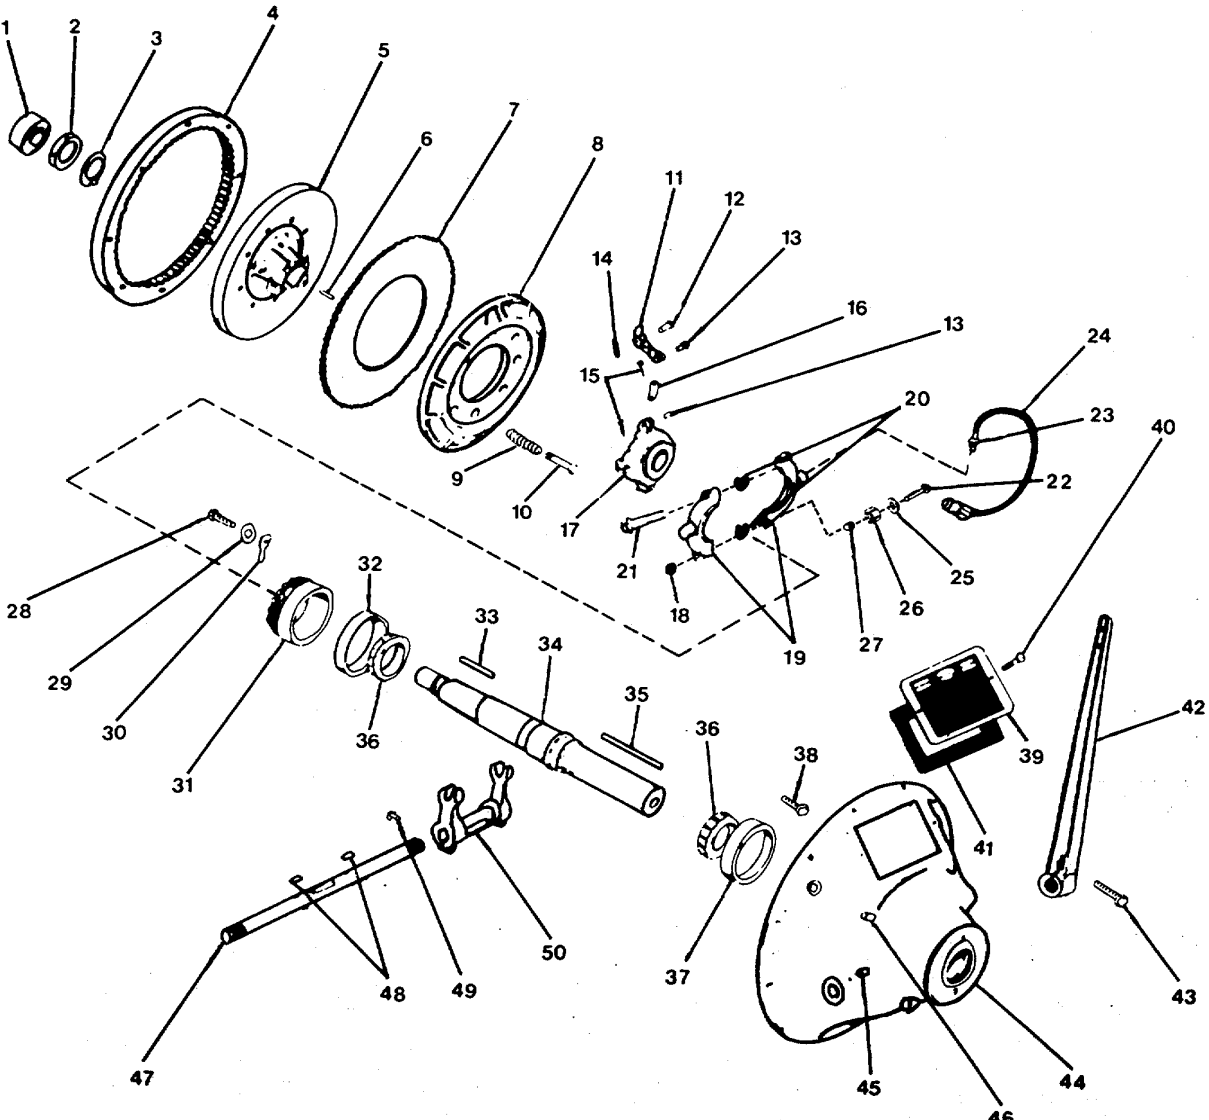

FIGURE 3-55. *Power Takeoff Assembly (SL-111 HP2).*
- a. Support the power take-off housing (44, FIGURE 3-55) on a work bench with wooden blocks. Have the PTO end facing upward.
- b. Remove the pilot bearing (1) from the clutch shaft (34).
- c. Remove the jam nut (26) and lockwasher (25) from the hose fitting (23) located in the PTO housing (44). Push the fitting (23) and hose (24) into the PTO housing (44).
- d. Straighten the bent portion of the hub nut lockwasher (3) from the hub nut (2). Remove the hub nut (2) and the lockwasher (3) from the clutch shaft (34). Discard the hub nut lockwasher (3).
- j. After adjustment, install the retainer lock (30, FIGURE 3-55) and secure the lock (30) to the clutch housing (44) with a capscrew (28) and lockwasher (29). Tighten the capscrew to 21-24 ft-lb torque. Be sure to lubricate the main bearings through the housing fitting near the shaft exit.
- k. Install the lubrication fitting (38) in the rear (output) end of the clutch shaft (if used).
- m. Install four levers (11) and pins (12) in the hub and back plate (8). Secure the levers (11) and pins (12) to the plate (8) with four cotter pins (14). Spread the cotter pins.
- n. Install the driving plate (7) onto the hub and back plate.
- o. Install the floating plate (8) onto the hub and back plate (5) against the driving plate (7).
- p. Use four pins (13) and cotter pins (15) to attach eight links (16) to the finger levers (11). Spread the cotter pins. When the cotter pins are spread, the radius of the pin ends must not be greater than 0.31 inch. This is necessary to prevent operating interference.
- q. Install the eight spring bolts (10) and pressure springs (9) through the floating plate and into the hub and back plate. Tighten the spring bolts until their shoulders contact the hub and back plate; then, tighten them to 160-175 ft-lb torque.
- r. Assemble the collar (19) halves and shims (20) to the sliding sleeve (17) with the two capscrews (22) and two hex-nuts (18). Tighten the hex-nuts to 38-42 ft-lb torque. Install the two guide pins (6) with flats into the sliding sleeve (17) if they were removed during disassembly.
- s. Install the sliding sleeve (17) with attached parts entering the guide pins (6) into the hub of the hub and back plate.
- ab. Place the instruction cover plate gasket (41, FIGURE 3-55) and install the cover plate (39) on the PTO housing with two round-head screws (40). Tighten the screws to 11-13 ft-lb torque.
- ac. If the driving ring (4) was removed, position the driving ring (4) against the engine flywheel and secure it with eight hex-head capscrews. Torque capscrews. Refer to Table 3-5.